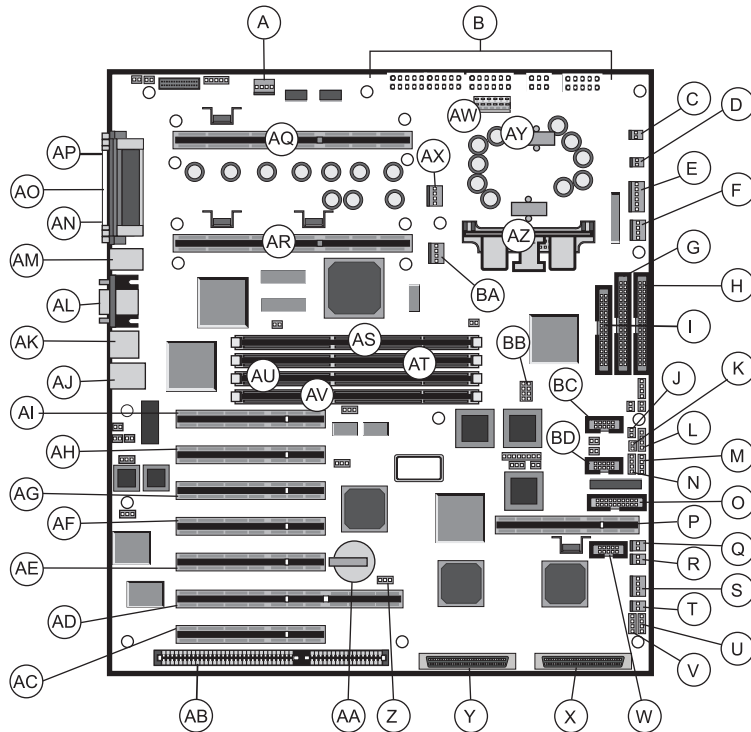

Figure 7: System Board Components
2. Carefully thread the ribbon cables through the openings in the chassis and connect them to the appropriate connectors. See Figure 7 on page 12 for the locations of the connector on the system board and see the RAID Cage Configuration Guide for the location of the connector on the RAID bay backplane.
The system board functions as the main interface between the processor, memory, and peripherals. See the table below and on the following page for the key to Figure 7.